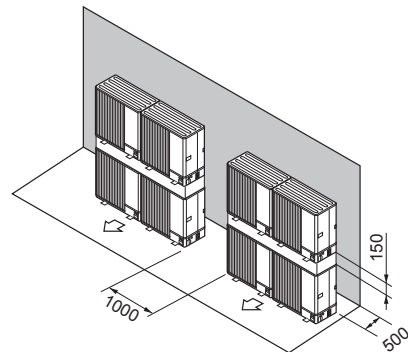

Fig. 1-18
- ⑦ Stacked unit arrangement (Fig. 1-18)